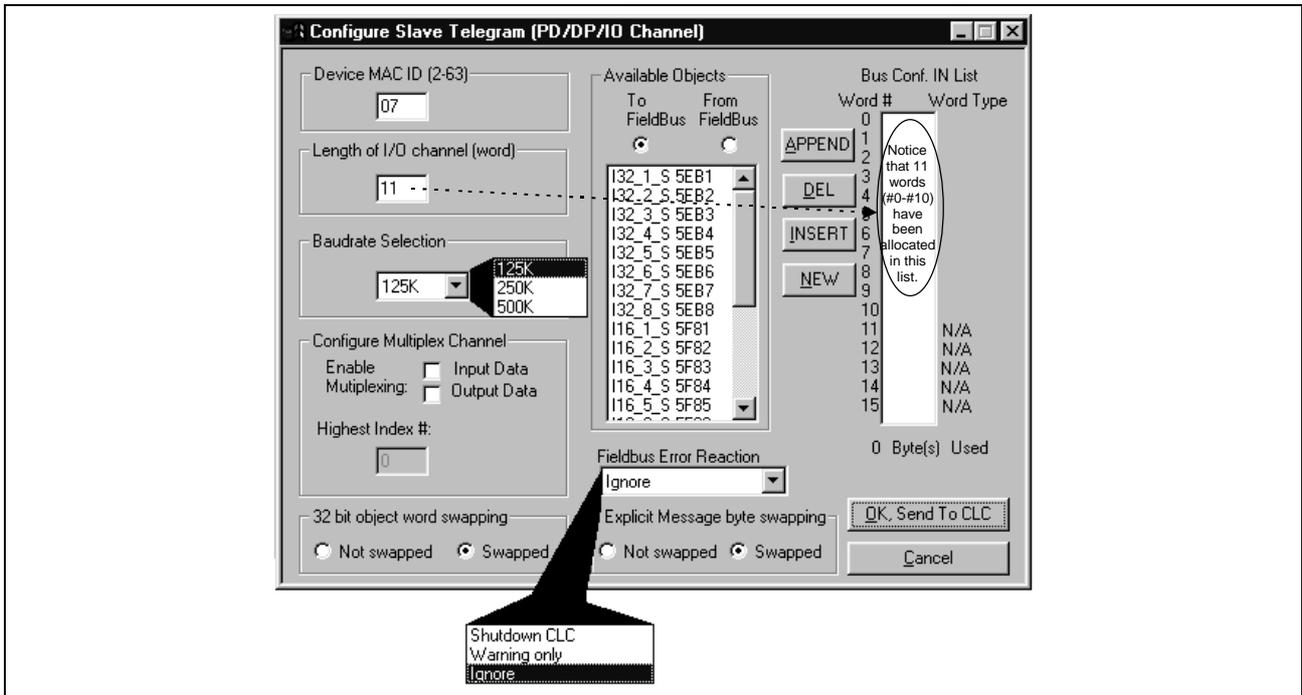

Figure 2-3: DeviceNet Configuration Screen
- Click the button labeled "Define/Config Slave Objects." The Fieldbus Mapper will try to detect any configuration data from the CLC-D. If you are configuring a new list, click on the "NEW" button to clear any current data in the selected list. The DeviceNet Configuration Screen is pictured in **Figure 2-3: DeviceNet Configuration Screen**.